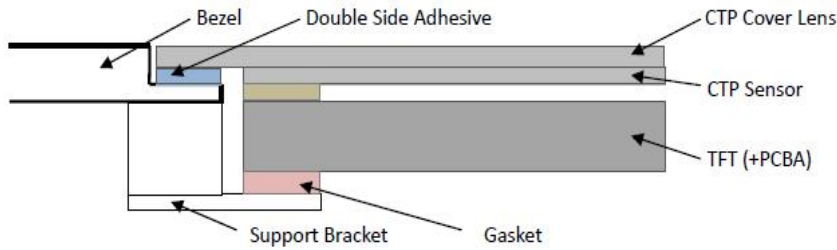

Figure 2
8.2 Surface Mounting (Figure 2)
8.2 嵌入安装 (附图 2)